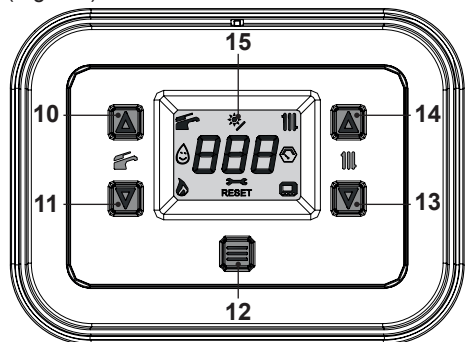

Fig. 3.1
If a radiator (or a convector) does not heat up, check that no air is present in it and that its valve is open. If the ambient temperature is too high, do not alter the radiator valves. Reduce the central heating temperature instead by means of the room thermostat or by pressing the 13 and 14 heating adjustment keys (Fig. 3.1).
Press the reset key on the boiler control panel 12 (Fig. 3.1) to reset its functioning.
After three reset attempts made by pressing the reset key 12 (Fig. 3.1), code "E91" and the symbol  (Fig. 3.4) appear on the LCD display. The boiler is in lockout mode.
To restore boiler operation, disconnect the electrical power supply. Then, reconnect it and press buttons 10, 11 and 12 (Fig. 3.1) on the boiler control panel at the same time for at least 5s.